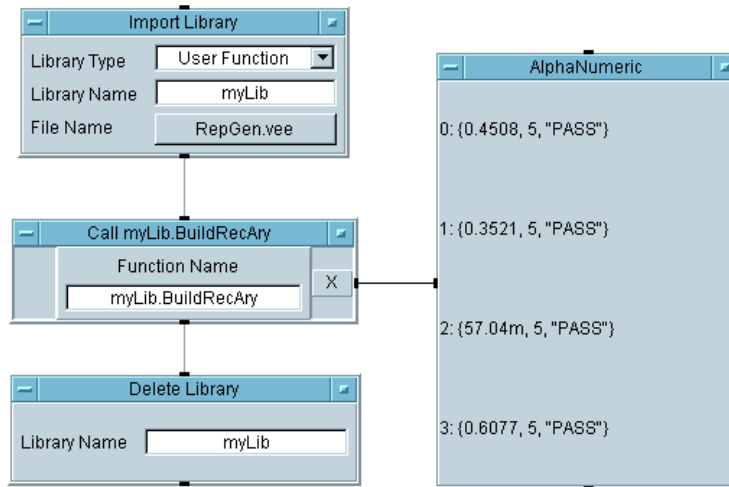

Figure 8-19. Calling a Function from a Library
8. Run the program. It should look like Figure 8-19. Save the program as `libraries.vee`.
- If an imported function has the same name as a local function, it is allowed, but the local functions are called if only the function name is used. You can explicitly call the imported function with the `MyLib_func()` syntax as in the `Call` object in Figure 8-19.